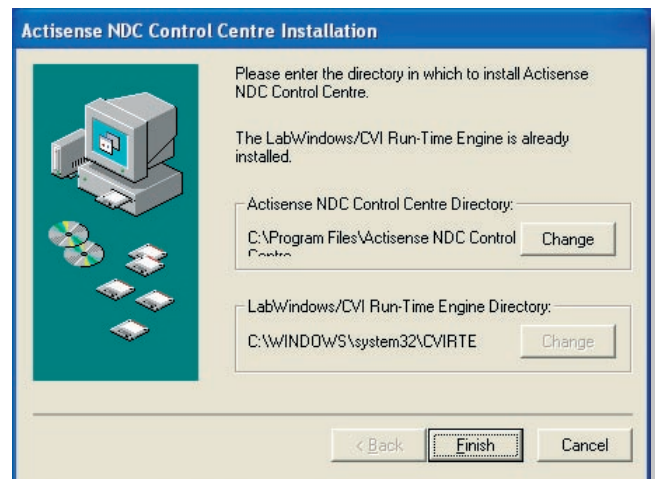

Figure 4 – Install options
4. Double click on the 'setup.exe' program file and follow the on-screen instructions of the standard Windows™ install program. The install location can be change at this point, however, the default location is normally acceptable (refer to **Figure 4 and 5**).